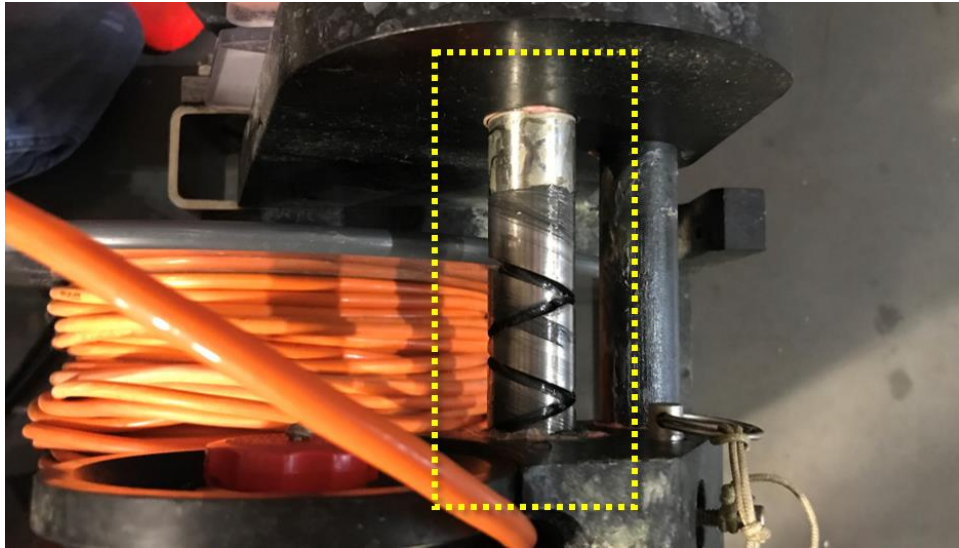

Figure 21. Properly Greased Winch Axle (Axle Rod)
2. The winch axle (axle rod) requires lubrication with Krytox 205 annually. Figure 21 is an example of a properly greased axle. Maintaining lubrication on this component ensures the equipment lifespan.